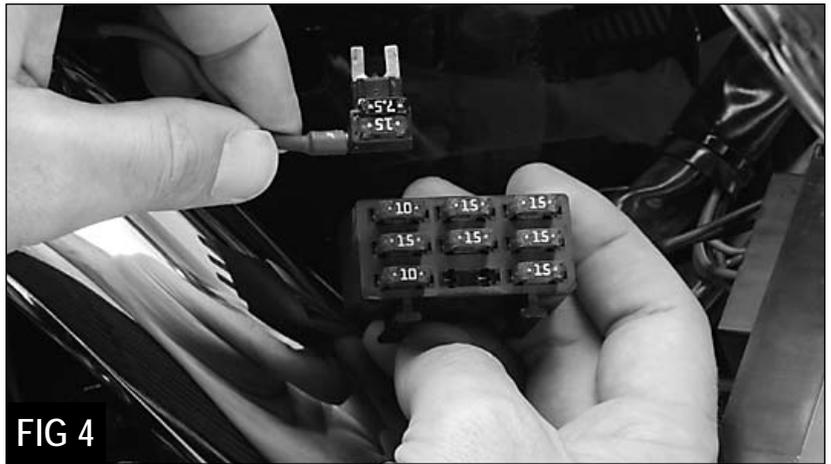

FIG 4
6. Look for the **Accessories** fuse in the fusebox and remove it. Place this fuse in the empty slot of the fuse adapter as shown in *Figure 4*.